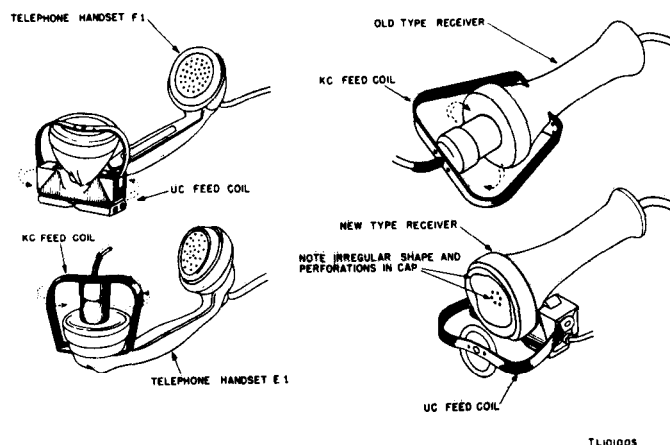

Figure 12. UC coupling coil attached to telephone headsets.
*e. Use of UC Coupling Coil* (fig. 6). When inductive coupling to a telephone line is required, use the UC coupling coil furnished with Facsimile Set AN/TXC-1(\*) except with Facsimile Set AN/TXC-1D. This coupling (feed) coil is designed to fit over the receiver of the handset used on Telephone EE-8 and other telephone handsets (fig. 12). The coil is fitted into place and the plug at the end of the cord from the UC coupling coil is connected to the polarized LINE JACK (J5) on the transceiver terminal strip. Approximately 30 db is lost when using this method of connection. When using a line of Wire W-110-B or WD-1/TT between transceivers, if there signal voltage is required than that obtained by using